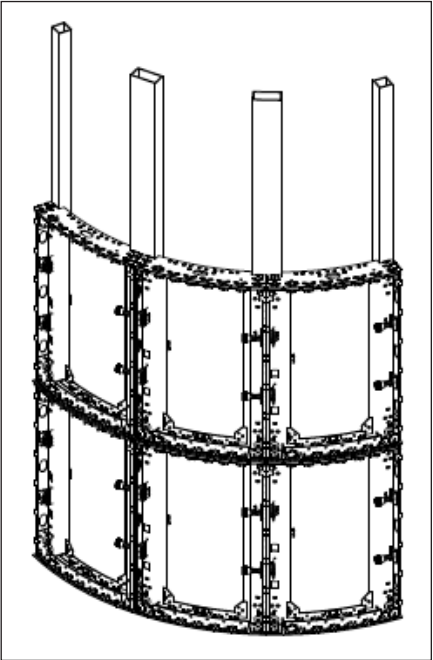

Figure 7: Install Second Row of Panels
9. Start on the next row after the bottom row is completed, working from the center out. Refer to **Figure 7**.